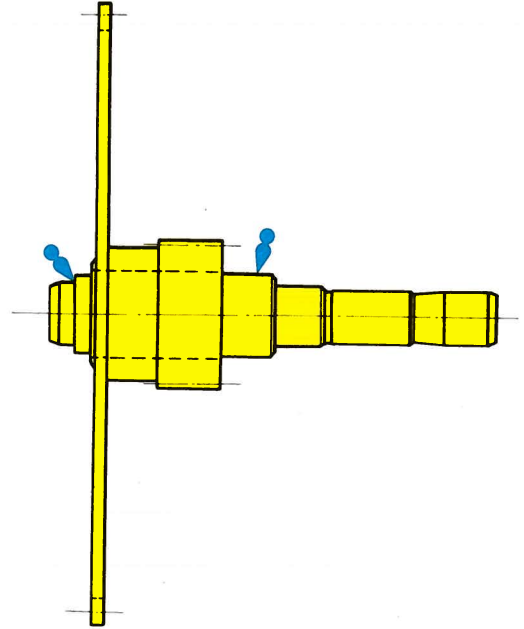

Fig. 3
- Center wheel and pinion : To upper and lower pivots before assembling. Fig. 3